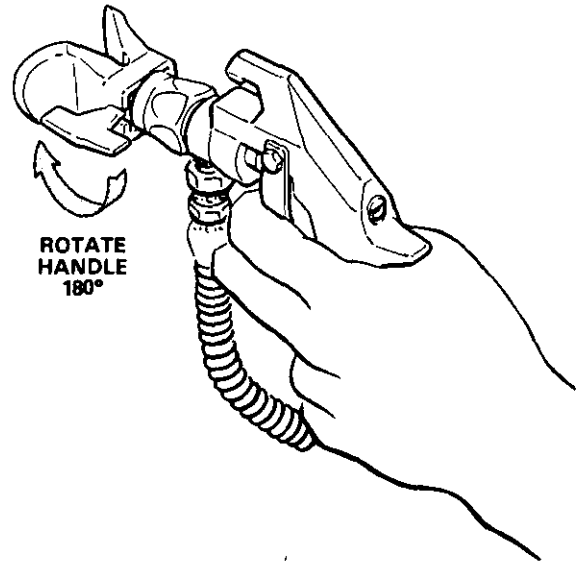

Fig 7
- If using the *RAC III Spray Tip Kit*, rotate the RAC III handle 180°. See Fig 7. Disengage the gun safety, and trigger the gun into a grounded waste container. Engage the gun safety again. Return the handle to the original position.